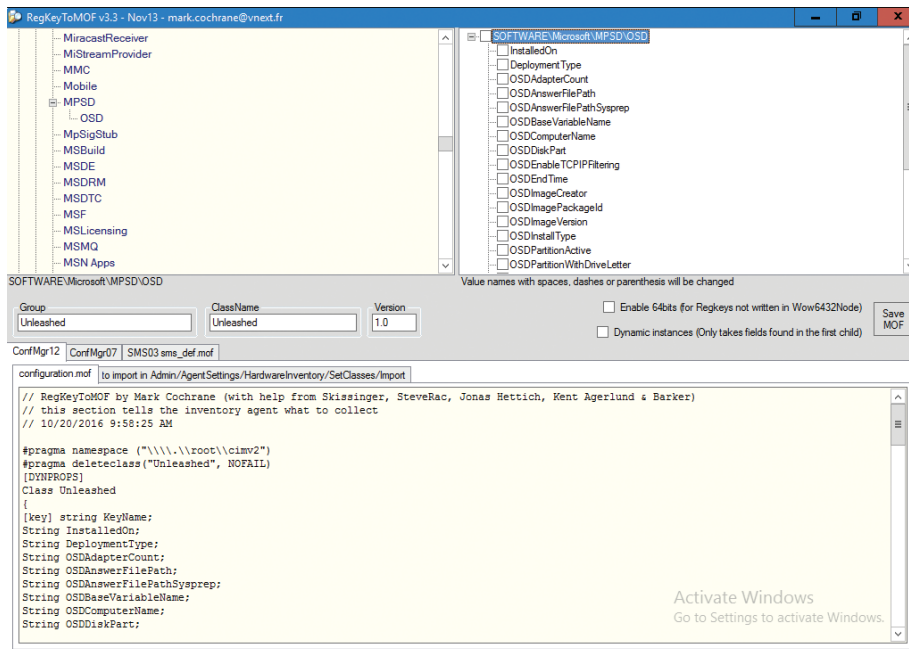

FIGURE E.2 RegKeyToMOF utility.
3. Start RegKeyToMOF and browse to the `HKEY_LOCAL_MACHINE\SOFTWARE\Microsoft\MPSD\OSD` Registry value. You can modify the values of `Group`, `ClassName` (which must be unique and in this case is `Unleashed`), and `Version`, as shown in Figure E.2. The RegKeyToMOF utility displays the changes to be made to ConfigMgr 2012, ConfigMgr 2007, and Systems Management Server (SMS) 2003; this example uses ConfigMgr 2012 suggested modifications, which are also valid for ConfigMgr Current Branch. Click **Save MOF** to export the settings specified in the configuration.mof tab and the to import in... tab of the utility.